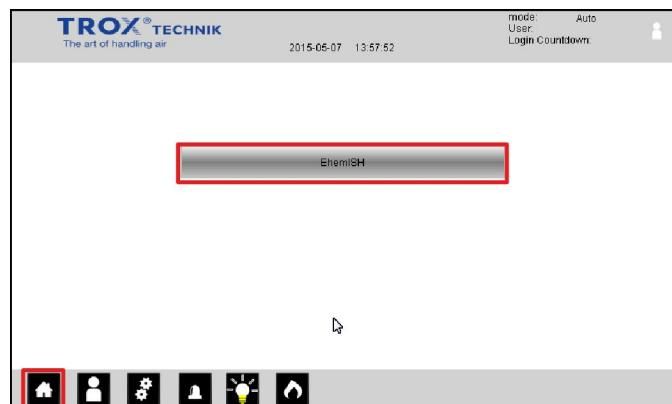

Fig. 19: Opening the system overview (variant 2)
- Press  (Fig. 19) on the starting screen or press the button in the navigation area (Fig. 19).